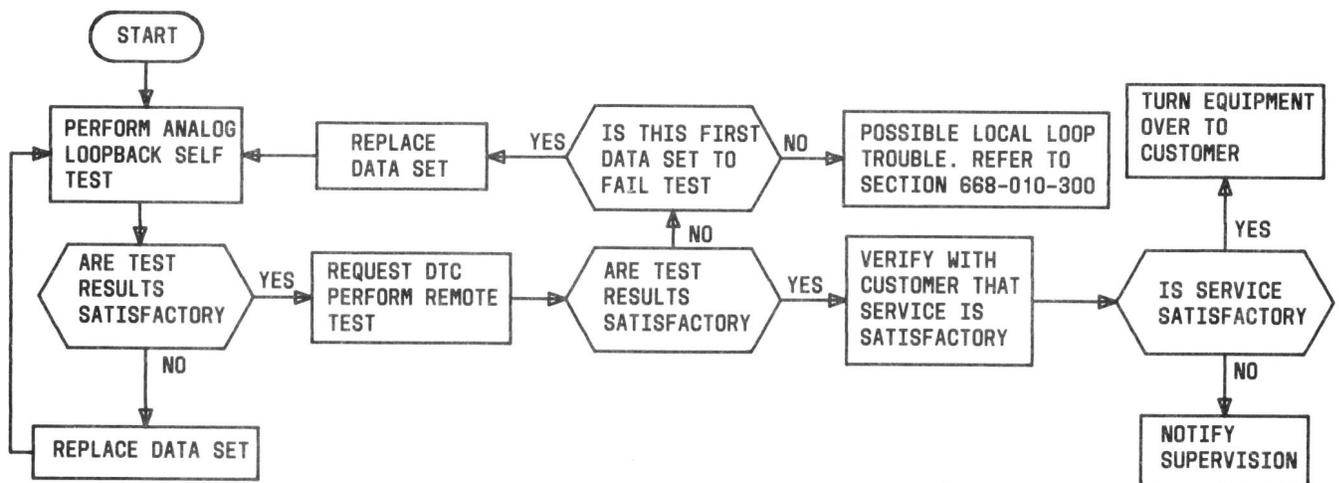

Fig. 2—Installation Test Sequence (2-Wire Switched Network)
**2.02** Before proceeding with the tests for a switched network installation, verify that the local loop meets the requirements specified in Section 314-205-501. For a 2-wire switched network, the installation test sequence is shown in Fig. 2.